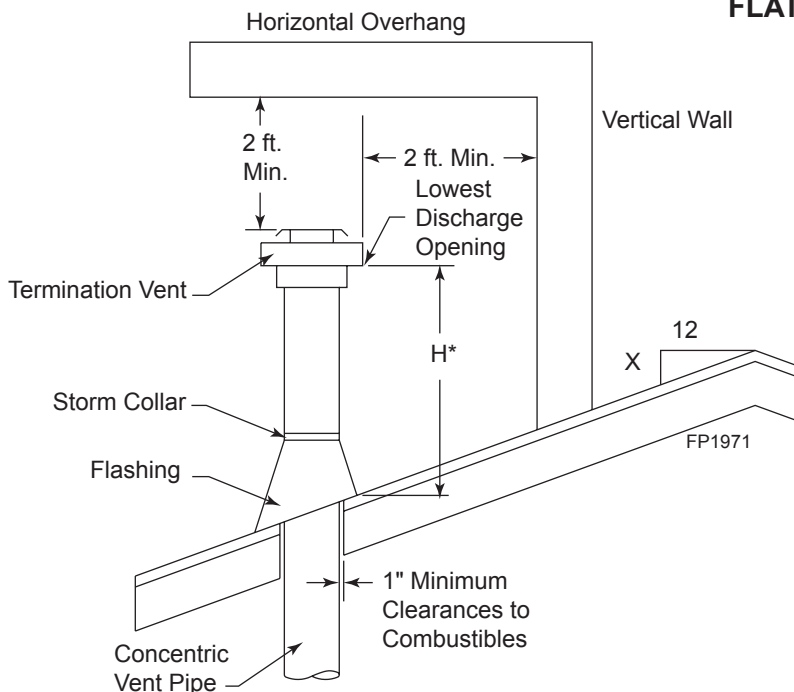

**Figure 26 - Minimum Chimney Clearance**
- For the minimum height of the vent above the highest point of penetration through the roof refer to Page 20, *Figure 26*.